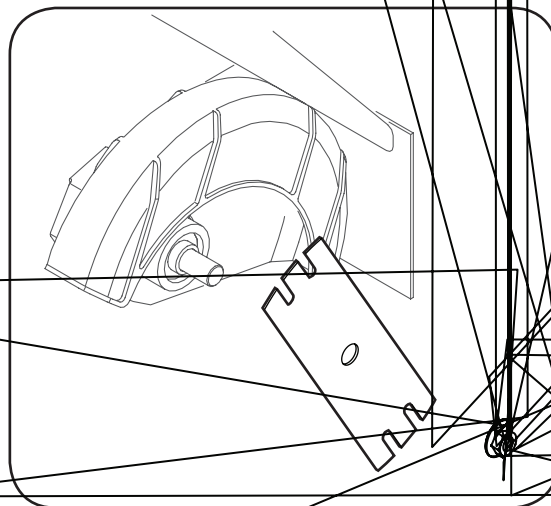

Figure 6-2
1. Use two wrenches (one wrench to prevent the hex bolt head from spinning and the other to remove the flange nut) to remove the edger blade. Refer to Fig. 6-2.